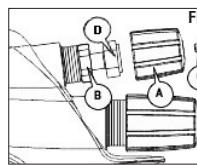

FIG. 1
f. Disassembly of pattern adjustment set (5) and/or air adjustment set (15). In order to disassemble pattern adj. set (5) and/or air adj. set (15), first of all unscrew countersunk socket head screw Torx T10(C) and remove adjustment knob (A) by pulling out it carefully, as illustrated in Fig.1.
IMPORTANT: Before reassembling pattern adjustment set and/or air adjustment set, make sure that these operations are carried out with the adjustment fully open (Fig.1).